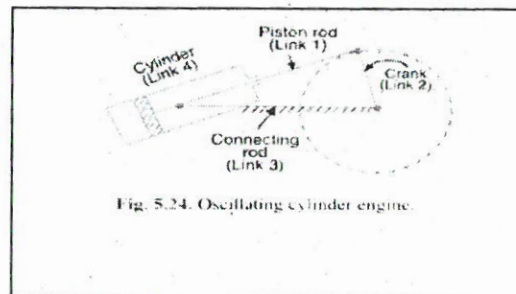

Fig. 5.24. Oscillating cylinder engine.
**2. Oscillating cylinder engine.** The arrangement of oscillating cylinder engine mechanism, as shown in Fig. 5.24, is used to convert reciprocating motion into rotary motion. In this mechanism, the link 3 forming the turning pair is fixed. The link 3 corresponds to the connecting rod of a reciprocating steam engine mechanism. When the crank (link 2) rotates, the piston attached to piston rod (link 1) reciprocates and the cylinder (link 4) oscillates about a pin pivoted to the fixed link at A.